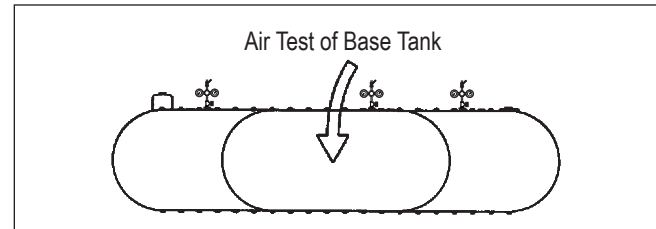

FIGURE 4-2
4.5.2. Pressurize the primary tank. See *SECTION 3.5* and *FIGURE 4-2*.